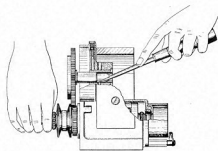

Fig. 24
3. With the gears meshed in the proper position, place the armature and distributor gear in the magneto. A felt oil wick extending thru the lower part of the distributor gear bearing may prevent the distributor gear shaft from sliding into the bearing. If this difficulty is experienced, hold the oil wick down as illustrated in Fig. 24.